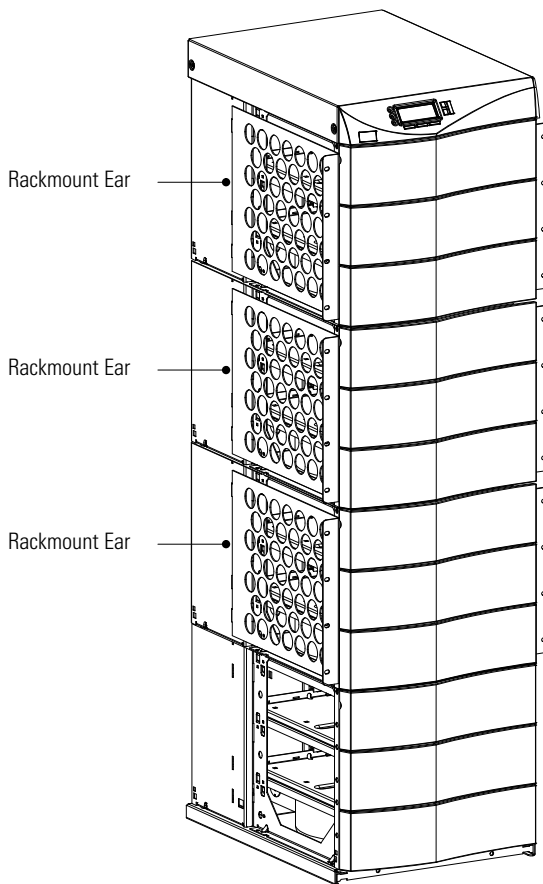

Figure 3. Rackmount Ears Installed
5. Install two rackmount ears (three for 12-slot cabinets) on each side of the cabinet (see Figure 3).